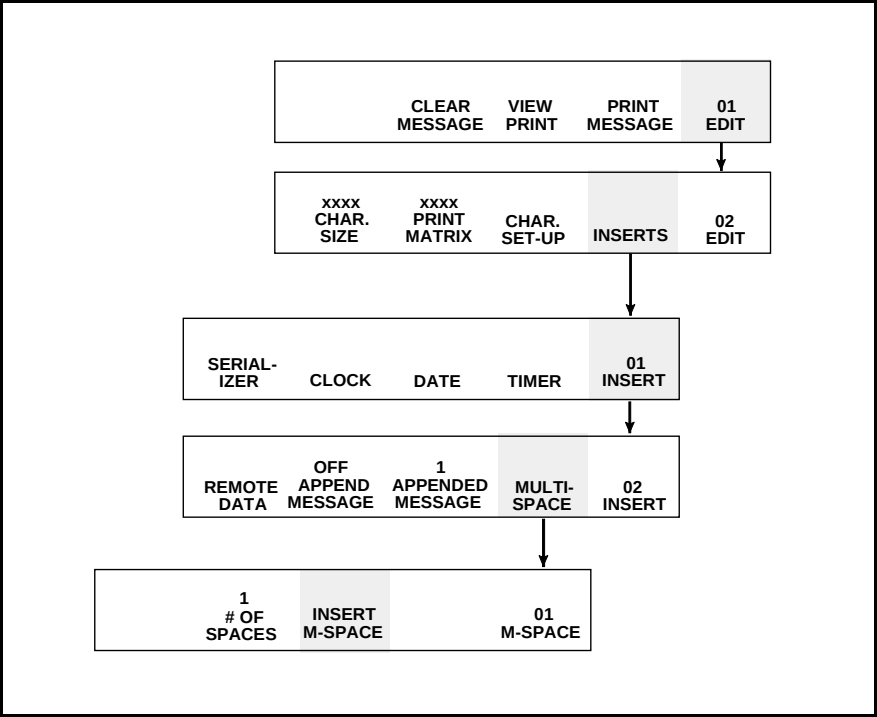

Figure 6-42. Accessing Frame <01 M-SPACE>
1. Begin in Frame <01 M-SPACE>. Refer to Figure 6-42.
5. Press the **ENTER** key. Frame <01 M-SPACE> reappears in the display screen. Refer to Figure 6-42.